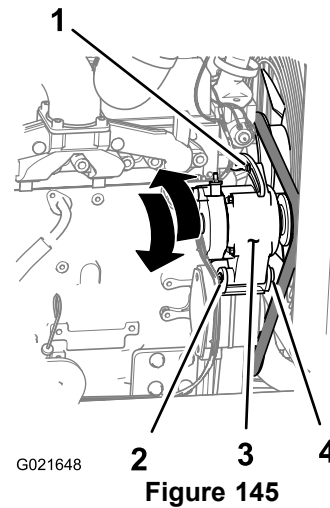

Figure 145
3. Loosen the nut and bolt at the pivot point for the alternator (Figure 145).
4. Loosen the adjustment bolt on the alternator (Figure 145).
5. Move the alternator away from the engine to increase the belt tension; move the alternator toward the engine to decrease the belt tension (Figure 145).
6. Tighten the alternator adjustment bolt (Figure 145).
8. If the belt tension is correct, tighten the nut and bolt at the pivot point for the alternator (Figure 145); otherwise repeat steps 4 through 7.